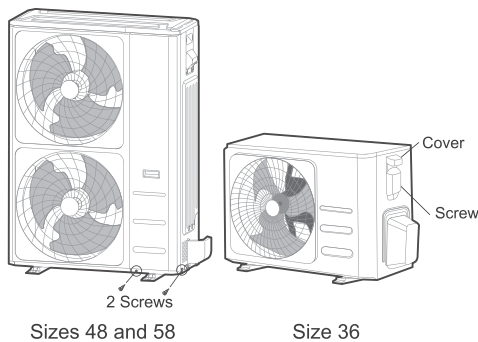

Fig. 29 —Remove Panels and Electrical Wiring Cover
2. Remove the 2 screws on the front and side panels. Take it down to perform wire connection. See Fig. 29.
Unscrew the electrical wiring cover and remove it. See Fig 29.